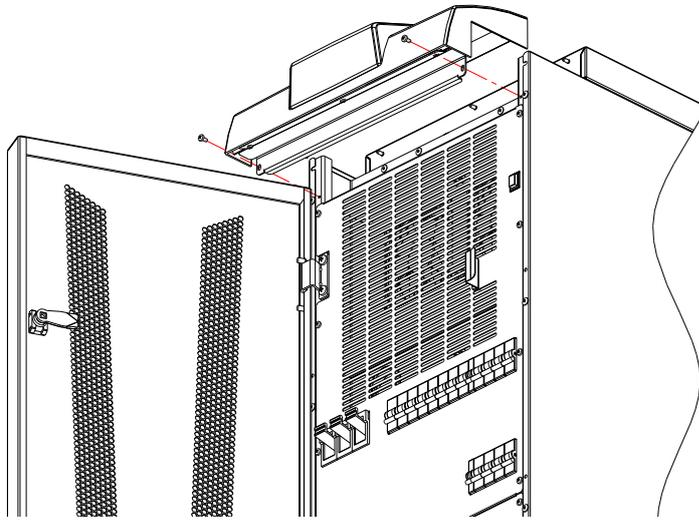

Figure 16
- 3) Remove from the display the RJ45 cable (Figure 16).